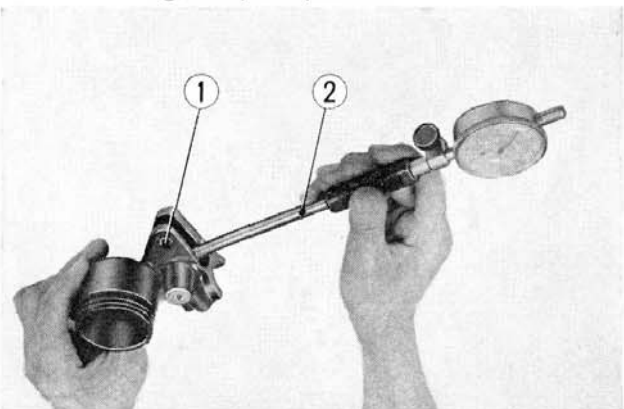

Fig. 14-11 ① Master cylinder body
4. Master cylinder piston (Fig. 14-11)